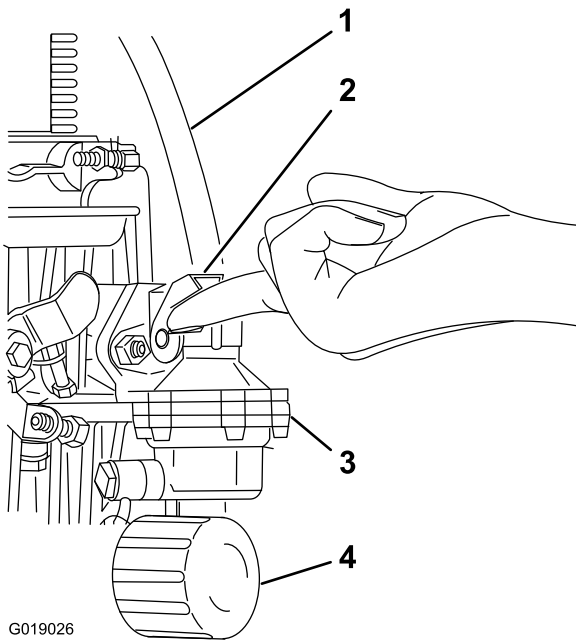

Figure 25
5. At the fuel pump, operate the priming lever until fuel is heard flowing back into the fuel tank through the fuel return line. (Figure 25).